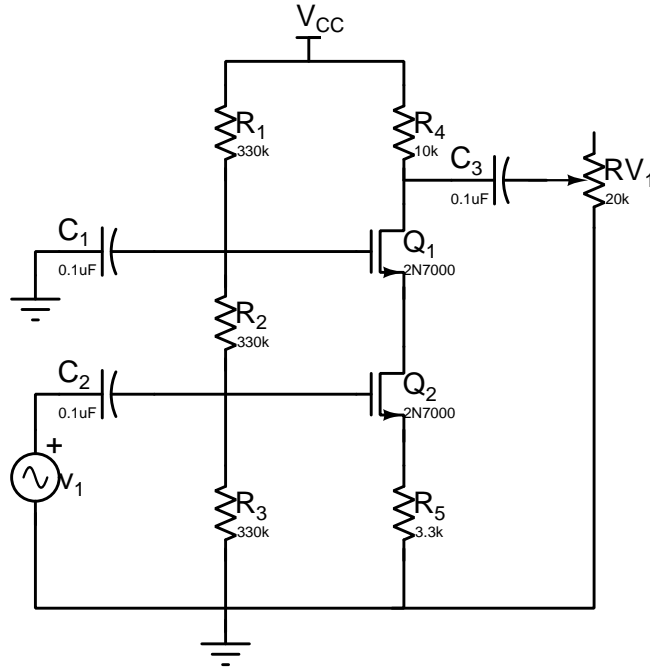

Figure 4.3: Common Gate-Common Source Cascade Structure
1. Construct the circuit shown in Fig. 4.3 on a breadboard without capacitor and potentiometer which belong to the output stage. Set the value of the DC voltage generator to 15 V. Produce a sinusoidal signal that has 100 mV peak voltage and 1 kHz frequency using signal generator.
In this part, the output impedance of the circuit will be measured. For this purpose, firstly the output of the circuit should be observed with an oscilloscope. To achieve this, connect the first channel of the oscilloscope to the input signal and connect the second channel of the oscilloscope to the output signal. Negative terminals of the oscilloscope probes will be connected to ground. Note the amplitude of the output signal and calculate the gain of the circuit. Connect the capacitor and potentiometer, which belong to the output stage, to the circuit as shown in Fig. 4.3. Adjust the value of potentiometer until the amplitude of the output signal is equal to half of the output signal which we've just seen in the last step. When this condition is satisfied, carefully disconnect the potentiometer from the circuit without contacting the adjustment terminal. Measure the resistance value of the potentiometer. This value is the output impedance of your circuit. Note this value and explain theoretically why it is obtained such.